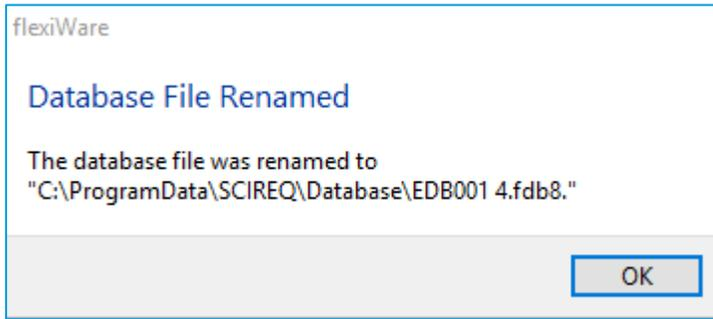

Figure 4-5. Database renamed
- » Once the update is finished, a summary notification will appear (Figure 4-5) confirming that the database was renamed to a *.FDB8 file